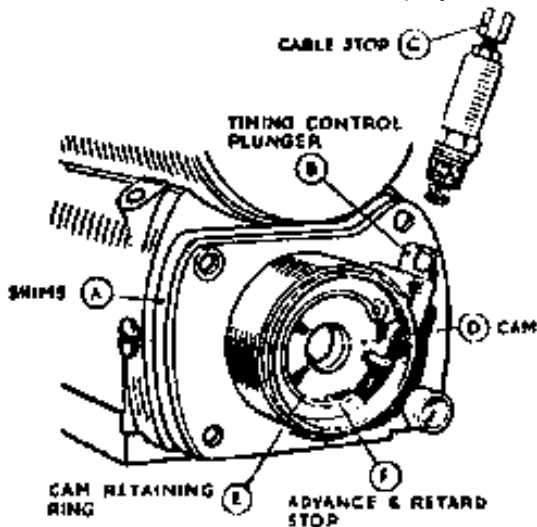

Fig. 55. Magneto contact breaker end showing fitting of cam, timing control and shims.
armature should revolve freely when turned by hand but no end play should be felt. Adjust by adding or removing shims (A, Fig. 55) and spring and secure by tightening the cable stop (C). Locate the cam (D) in the contact breaker housing with the timing control plunger in its correct slot as shown in Fig. 55 and secure by springing the circlip (E) into its location in the housing. (Note that the cam is fitted with its flat side towards the armature).